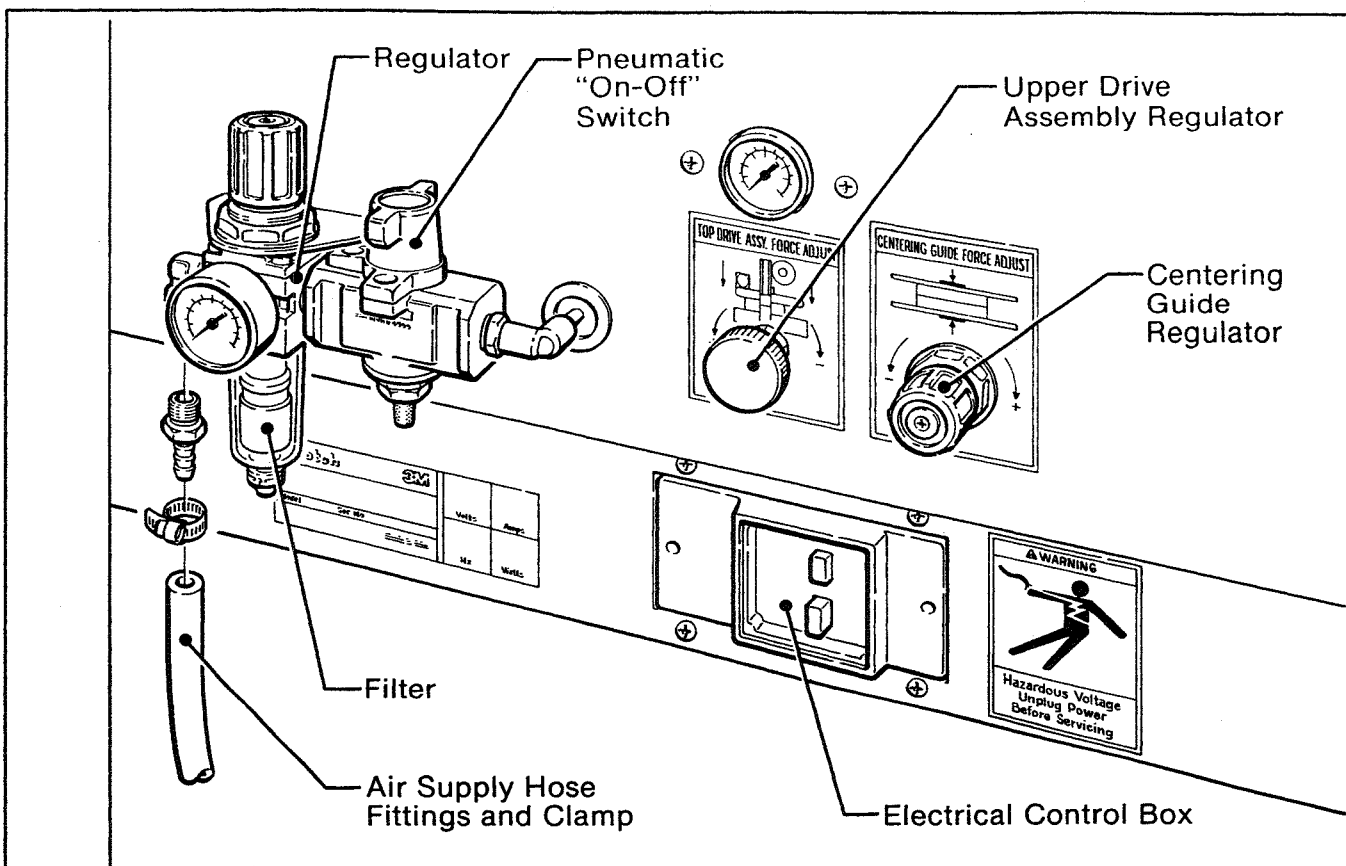

Figure 2-7 - Pneumatic Connections
The case sealer requires a 70 PSIG [5 bar gauge pressure], 3.75 SCFM [110 litre/min @ 21° C, 1,01 bar] compressed air supply. As shown in figure 2-7, an on/off valve, pressure regulator, and filter are provided to service the air supply.
1. The main air supply line should be connected to the on/off valve by means of the barbed fitting and hose clamp provided on the outer side of the on/off valve as shown in figure 2-7. The customer supplied air hose (5/16 ID) [8 mm] should be slipped over the barbed fitting and clamped tightly in place.
The electrical control box, shown in Figure 2-7, contains the "On-Off" switch with pre-set circuit breaker and can be located on either side of the main conveyor for customer operating convenience. An 8 foot [2,4 m] standard three conductor power cord with plug is provided at the back of the electrical control box for 115 Volt, 60 Hz, 3.8 amp electrical service. The receptacle providing this service must be properly grounded. The electrical power supply is turned "On" by pressing the black button, "Off" by pressing the red button. Before the power cord is plugged into 115 Volt, 60 Hz outlet, make sure the red button is depressed and that all packaging materials and tools are removed from the machine.